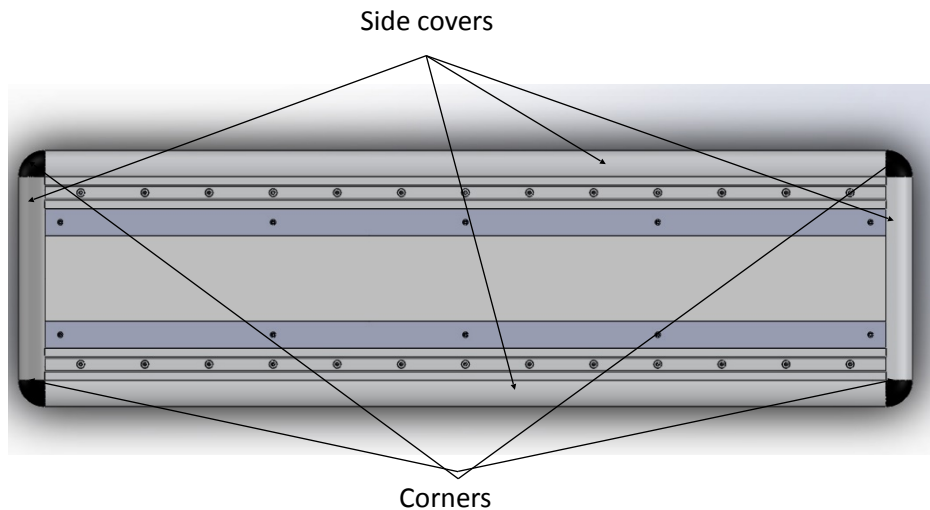

Figure 5: showing the top cover, brake strips, side cover and corner.
13. Place the 4 side covers and the 4 corners simply by connecting them and place them around the floor mount (refer to figure 5)